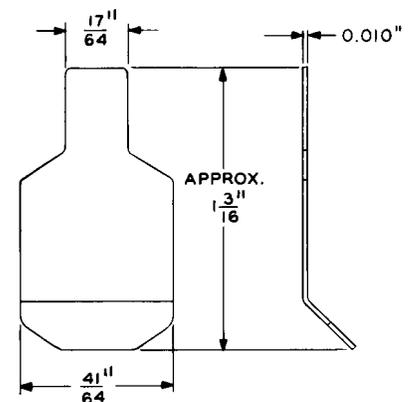

Fig. 2—656A Spring Insulator Tool
2.03 **656A:** The 656A spring insulator tool (Fig. 2) consists of a strip of insulating material. The 656A spring insulator tool is used on AF, AG, and 12-position AJ-type relays to insulate the contact springs during the removal of the card.